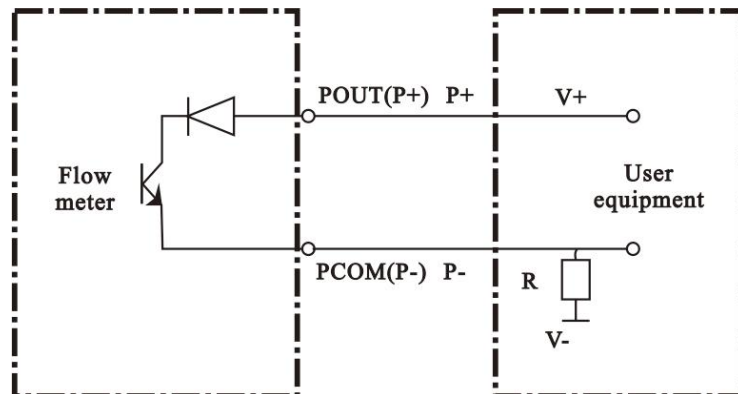

Figure 9
7.4.2 Output mode 2: passive output of OC door, user-side pull-down resistance (Figure 9)